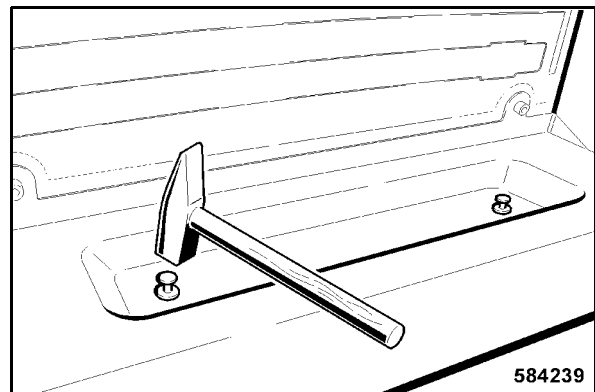

Fig. 225
- Insert the rear rack and knock both plastic fasteners carefully into the bores with a hammer (Fig. 225).